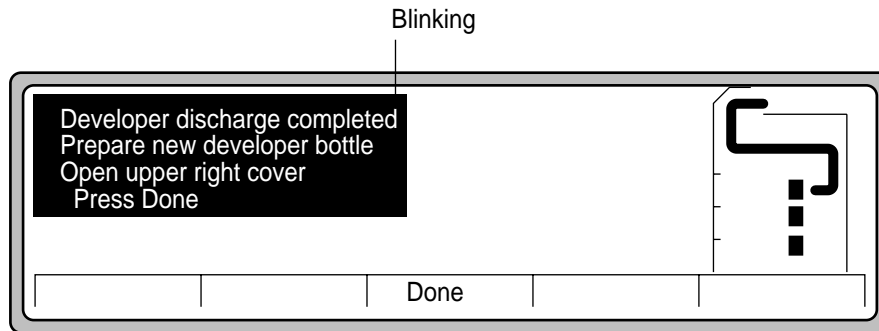

Figure 4-14 Developer discharge complete
8. After 45 seconds, you see the display shown in Figure 4-14.